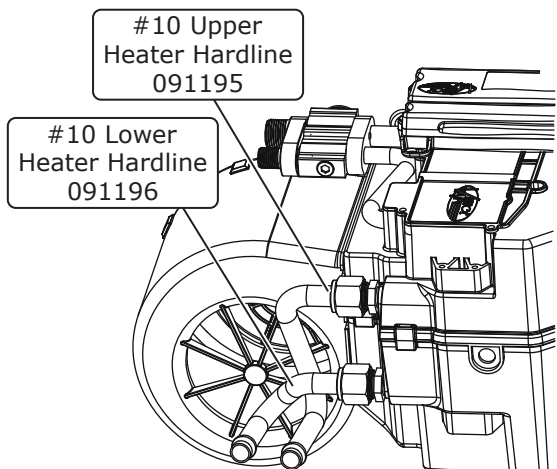

Figure 5
4. With properly lubricated O-rings (See Lubricating O-rings, Page 13), install the #10 upper and lower heater hardlines as shown in Figure 5, below. Leave loose at this time.